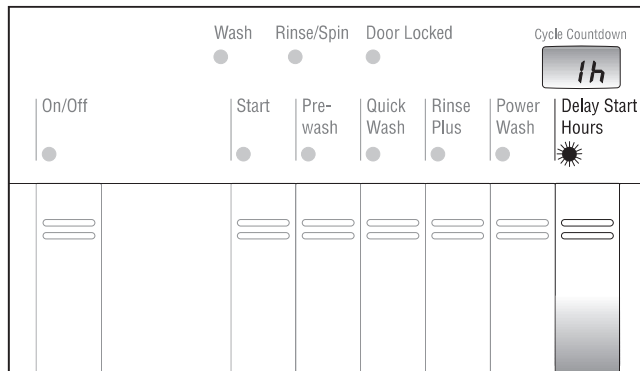

Figure 15.
- XIII. Press “DELAY START HOURS” button, see figure 15. The alphanumeric display above the button will display “1h” indicating that a one hour delay has been selected. Press the “DELAY START HOURS” button as many times as necessary, or hold it in, to display the number of hours delay desired.